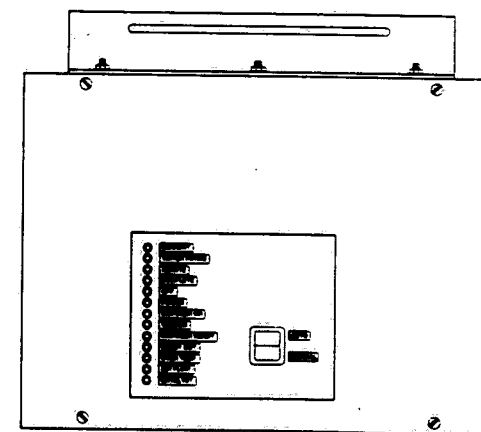

Figure 2-7. Interface Box — Medallion Sterilizer
1. Interface box — The sterilizer communicates with the disposer through the interface box. This box is mounted on the sterilizer framework. Thirteen signal lights are located on the Medallion Interface Box (See Figure 2-7) to signify: